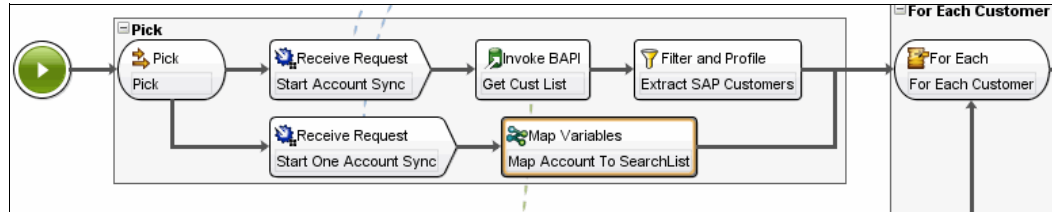

Figure 10-70 Extensions for synchronization of one account
2. Move all the existing activities before the loop activity into the first branch. For details about which activities to move refer to Figure 10-70 on page 400.
Figure 10-70 shows the first part of the orchestration.